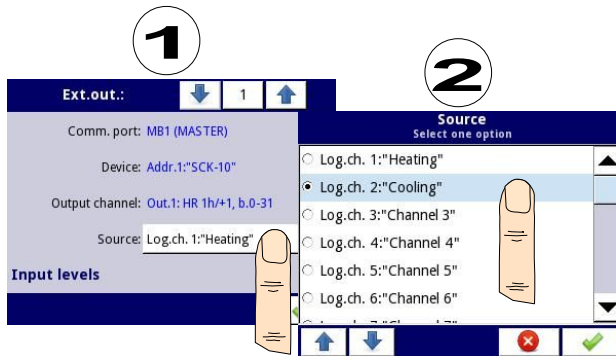

Fig. 7.98. Sample selection of **Source** for External output
- **Source** – this parameter allows to choose a source for an external output from the logical channel list (see Fig. 7.98),